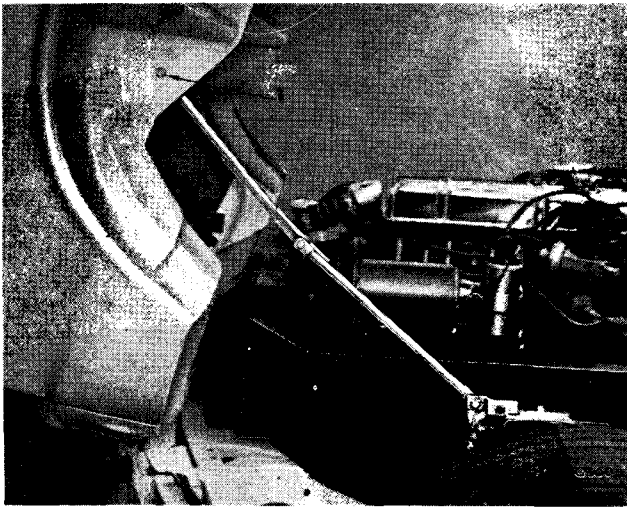

Fig. 10. Bonnet stay
Remove the bolt (1) (Fig. 10) to disconnect the bonnet stay.